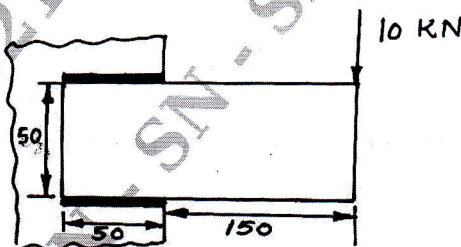

Fig. Q7 (b)
- b. Determine the size of weld required for an eccentrically loaded weld as shown in Fig. Q7 (b). The allowable stress in the weld is 95 MPa.